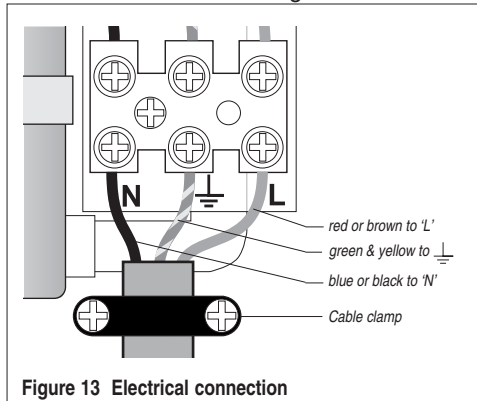

Figure 13 Electrical connection
7.8 Strip the insulation from the cores and make connections - see Fig. 13.